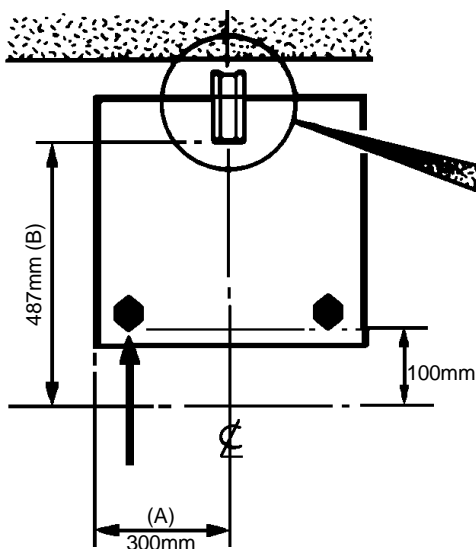
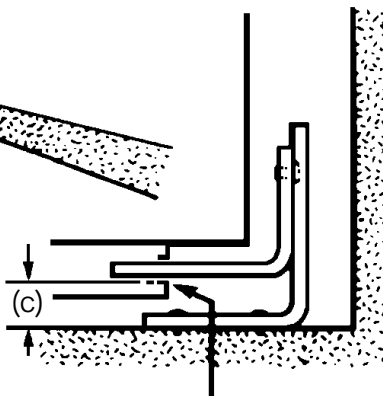

Fig.2a
Fig.2b
2. Mark off 300mm from the left hand side of the appliance as shown in dimension 'A', Fig.2a. This is the centre line of the fixing bracket.
3. Draw a line 100mm from the front edge of the levelling feet (see Fig.2a) and remove appliance from its position. Mark off dimension 'B' (see Fig.2a) back from this line on the centre line of the bracket to locate the front edge of the lower bracket. Fix lower bracket (with two fixing holes) to the floor then measure the height from floor level to engagement edge on back of appliance, dimension 'C' of Fig.2b.
Reposition appliance and check that top bracket engages into appliance back as shown in Fig. 2b.